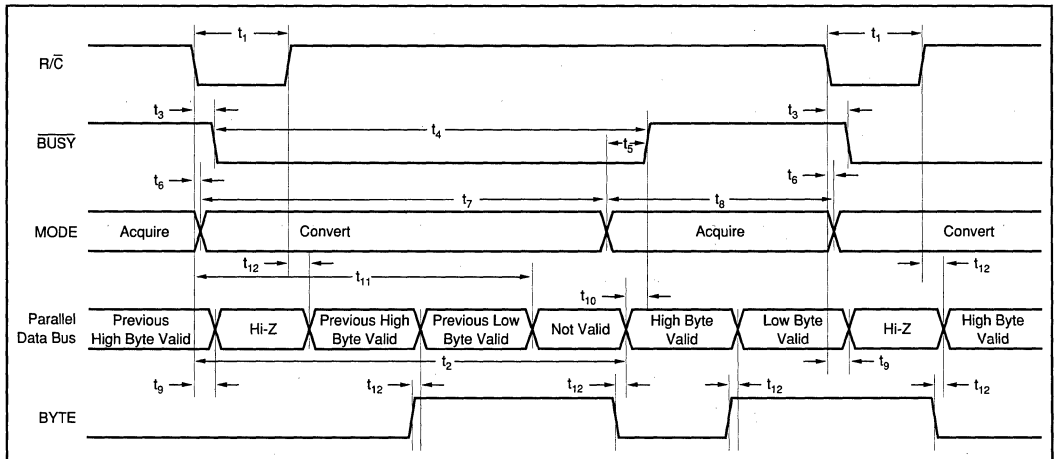

FIGURE 2. Conversion Timing with Parallel Output ($\overline{\text{CS}}$ and DATACLK tied LOW, $\overline{\text{EXT/INT}}$ tied HIGH).
The ADS7806 will begin tracking the input signal at the end of the conversion. Allowing 25 μ s between convert commands assures accurate acquisition of a new signal. Refer to Tables III and IV for a summary of \overline{CS} , R/\overline{C} , and $BUSY$ states and Figures 2 through 6 for timing diagrams.
NOTE: (1) See Figures 2 and 3 for constraints on data valid from conversion "n-1".
After conversion 'n' is completed and the output registers have been updated, BUSY (pin 24) will go HIGH. Valid data from conversion 'n' will be available on D7-D0 (pins 9-13 and 15-17). BUSY going high can be used to latch the data. Refer to Table VI and Figures 2 and 3 for timing constraints.
After conversion 'n' has been initiated, valid data from conversion 'n-1' can be read and will be valid up to $12\mu\text{s}$ after the start of conversion 'n'. Do not attempt to read data beyond $12\mu\text{s}$ after the start of conversion 'n' until BUSY (pin 24) goes HIGH; this may result in reading invalid data. Refer to Table VI and Figures 2 and 3 for timing constraints.